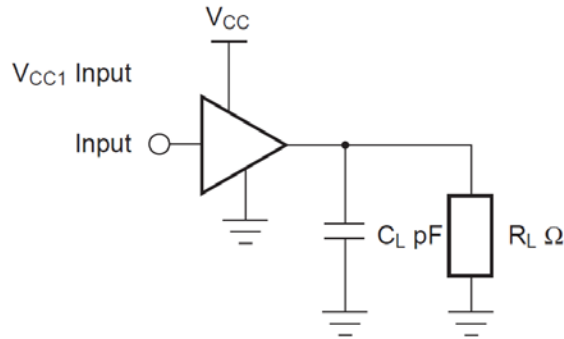

Figure 3. AC Test Circuit
| t PHL , t PLH | Propagation Delay Output TranslationV CC (V)=1.0 | C L =15pF,R L =1MΩ | 1.0                  |                       | 28.0 |      |                              |      | ns   | Figure 3,Figure 4 |
| t PHL , t PLH | Propagation Delay Output TranslationV CC (V)=1.2 | C L =15pF,R L =1MΩ | 1.0                  |                       | 19.0 |      |                              |      | ns   | Figure 3,Figure 4 |
| t PHL , t PLH | Propagation Delay Output TranslationV CC (V)=1.5 | C L =15pF,R L =1MΩ | 1.0                  |                       | 15.0 |      |                              |      | ns   | Figure 3,Figure 4 |
| t PHL , t PLH | Propagation Delay Output TranslationV CC (V)=1.8 | C L =15pF,R L =1MΩ | 1.0                  |                       | 14.0 |      |                              |      | ns   | Figure 3,Figure 4 |
| t PHL , t PLH | Propagation Delay Output TranslationV CC (V)=2.5 | C L =15pF,R L =1MΩ | 1.0                  |                       | 12.0 |      |                              |      | ns   | Figure 3,Figure 4 |
| t PHL , t PLH | Propagation Delay Output TranslationV CC (V)=3.3 | C L =15pF,R L =1MΩ | 1.0                  |                       | 11.0 |      |                              |      | ns   | Figure 3,Figure 4 |
| t PHL , t PLH | Propagation Delay Output TranslationV CC (V)=1.0 | C L =30pF,R L =1MΩ | 1.0                  |                       | 34.0 |      |                              |      | ns   | Figure 3,Figure 4 |
| t PHL , t PLH | Propagation Delay Output TranslationV CC (V)=1.2 | C L =30pF,R L =1MΩ | 1.0                  |                       | 22.0 |      |                              |      | ns   | Figure 3,Figure 4 |
| t PHL , t PLH | Propagation Delay Output TranslationV CC (V)=1.5 | C L =30pF,R L =1MΩ | 1.0                  |                       | 16.0 |      |                              |      | ns   | Figure 3,Figure 4 |
| t PHL , t PLH | Propagation Delay Output TranslationV CC (V)=1.8 | C L =30pF,R L =1MΩ | 1.0                  |                       | 15.0 |      |                              |      | ns   | Figure 3,Figure 4 |
| t PHL , t PLH | Propagation Delay Output TranslationV CC (V)=2.5 | C L =30pF,R L =1MΩ | 1.0                  |                       | 13.0 |      |                              |      | ns   | Figure 3,Figure 4 |
| t PHL , t PLH | Propagation Delay Output TranslationV CC (V)=3.3 | C L =30pF,R L =1MΩ | 1.0                  |                       | 12.0 |      |                              |      | ns   | Figure 3,Figure 4 |